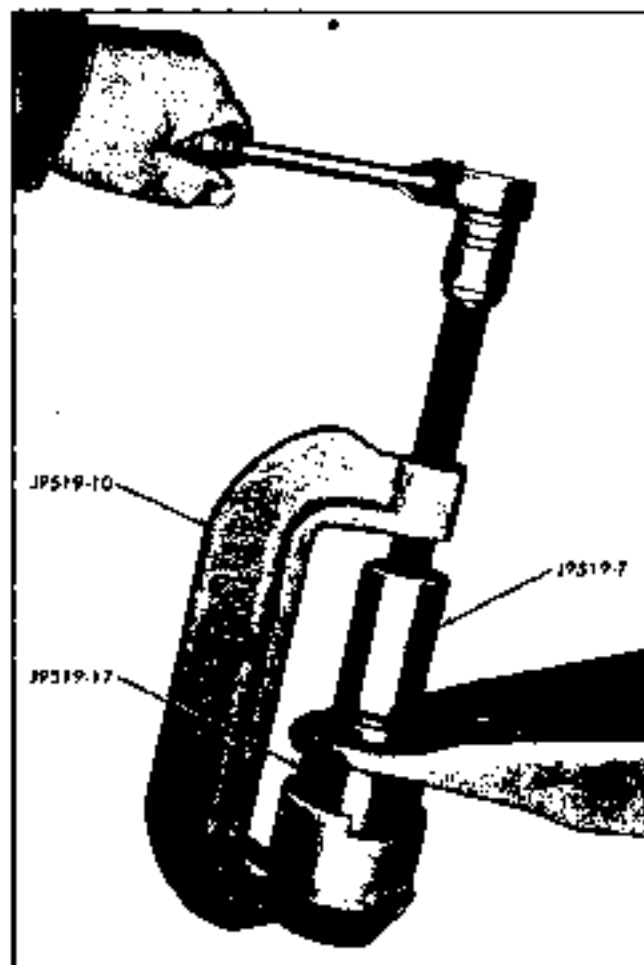

Fig. 3-23 Lower Ball Joint Removal Except Pontiac
5. Position tools J 9519-10, J 9519-17 and J 9519-7, as shown in Fig. 3-23, and turn down on the hex head screw until the ball joint assembly is pushed out of the control arm.